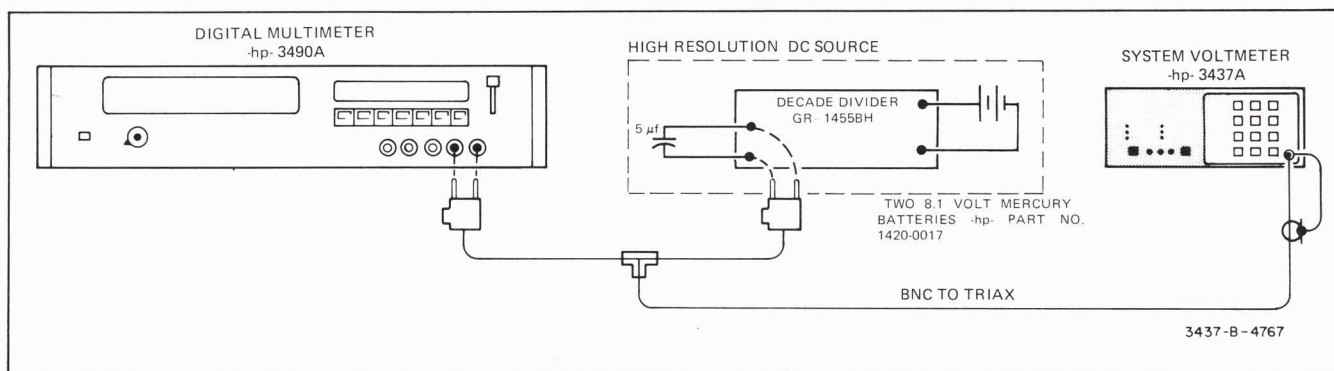

Figure 5-1. Static Accuracy Test Set-Up.
- a. Connect the equipment as illustrated in Figure 5-1.